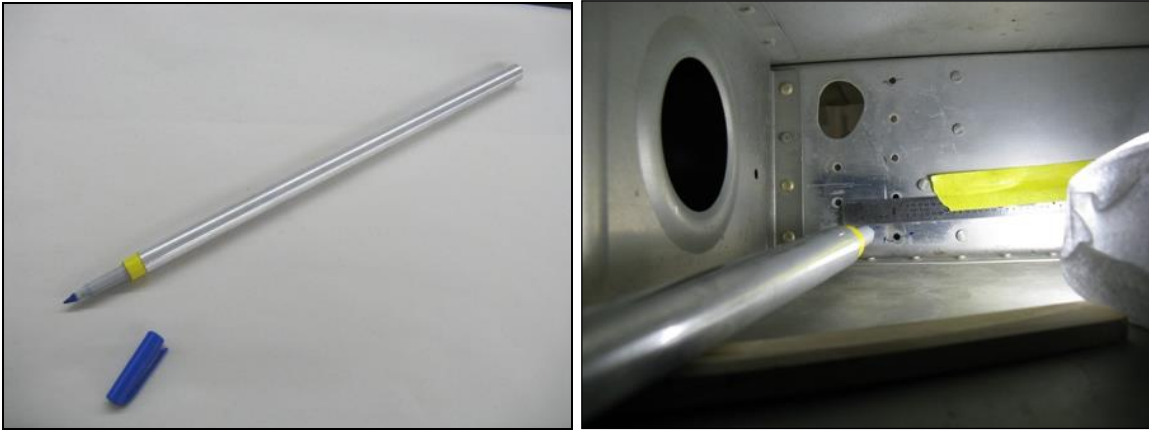

FIGURE 5: MARKING THE STOP-DRILL CENTER POINTS ON THE SPAR.
Step 10: Use a piece of tubing to make an extension handle for a fine point marking pen (a 5/8 inch diameter aluminum or steel tube works well), then, in a color that is easily visible, mark the optimal stop-drill hole center locations on the forward side of the rear spar. See Figure 5. To make the pen easier to control, you can rest it on a small piece of wood that has been cut to the approximate height of the hole location being marked.